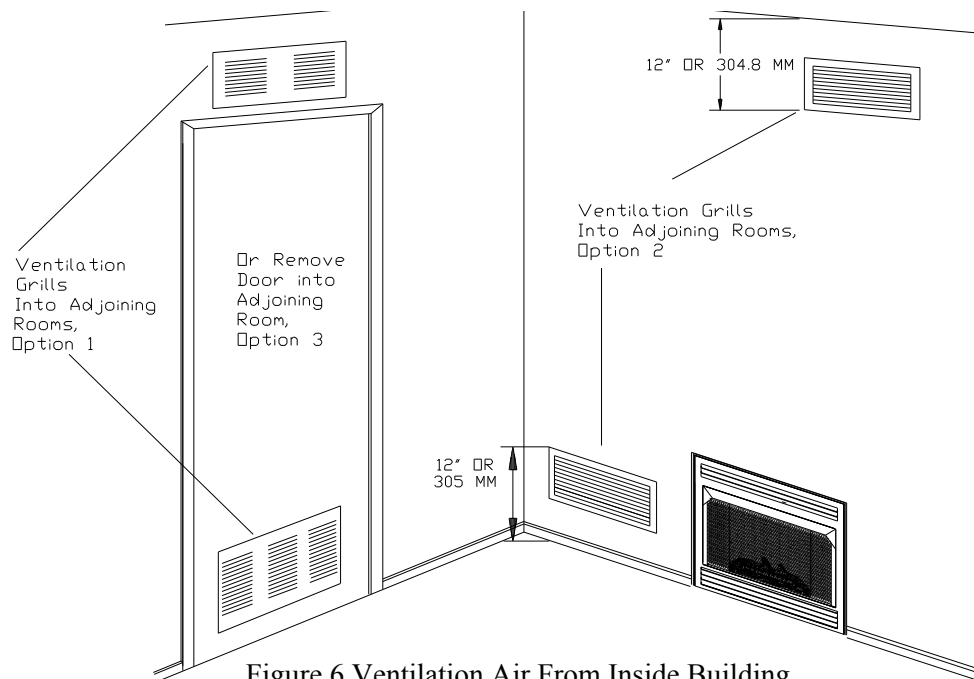

Figure 6 Ventilation Air From Inside Building
A. Rework worksheet, adding the space of an adjoining room. If the extra space provides an unconfined space, remove door to adjoining room or add ventilation grills between rooms. See “Ventilation Air From Inside Building”, figure 6.